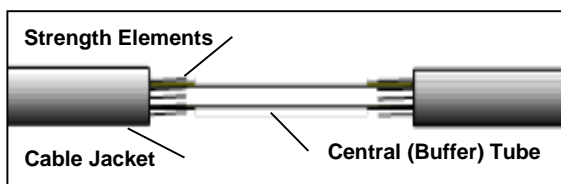

Figure 2
7.4.4 Midway along this exposed window, cut the strength elements with electrician scissors to expose the central (buffer) tube underneath (Figure 2).